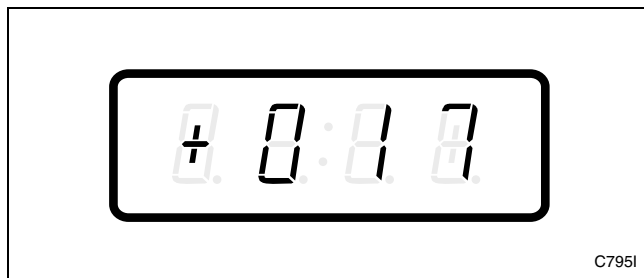

Figure 71
3. Press the LOW TEMP (+) or the NO HEAT (-) keypad to scroll through the programmable options until “+017” appears in the VFD. Refer to *Figure 71*.